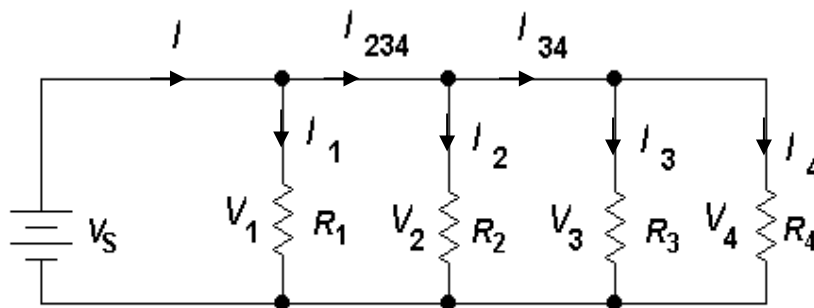

Figure 11-1
Voltage dividers find many applications in electronic circuits. The requirement for voltages of different values often arises and is normally accomplished by a series resistive circuit as shown in Figure 11-1. Voltages V_A , V_B , V_C , and V_D are potentials measured with respect to ground (the negative side of the battery). Since the current in each element is the same, by Ohm's Law the individual voltage across each resistor is proportional to the respective resistor value.
Figure 11-2 shows how a potentiometer can be used as a continuous voltage divider. For this experiment its value has been chosen to be 10 k Ω , which is exactly the sum of the four resistors in Figure 11-1. By appropriate positioning of the wiper arm, any of the voltages you obtained in the "discrete resistor" circuit of Figure 11-1 (and all values in between) can be derived. Potentiometers such as these are often used in this manner as volume controls in audio equipment.
1. For the circuit in Figure 11-1, calculate the nominal values for the voltages V_A , V_B , V_C , and V_D , and record them in Table 11-1. All voltages are with respect to ground.
4. Dismantle the circuit in Figure 11-1 and construct that of Figure 11-2. Place the VOM across the arm and the grounded end of the potentiometer.
9. If all the resistance values in Figure 11-1 were stepped up by a factor of 10, the new voltages would
10. When resistor tolerance is taken into account, the smallest expected value for V_C in Figure 11-1 is
11. If the 2.4 k Ω resistor in Figure 11-1 were mistakenly replaced with a 240 Ω resistor, the voltages that would be affected would be
BACKGROUND: Kirchhoff's Current Law states that the algebraic sum of currents into a node is equal to zero. With reference to Figure 11-1 this implies
1. Select four resistors from the eight available, and connect them in parallel as shown in Figure 11-1. Record your selected values in Table 14-1. Calculate and record R_T .